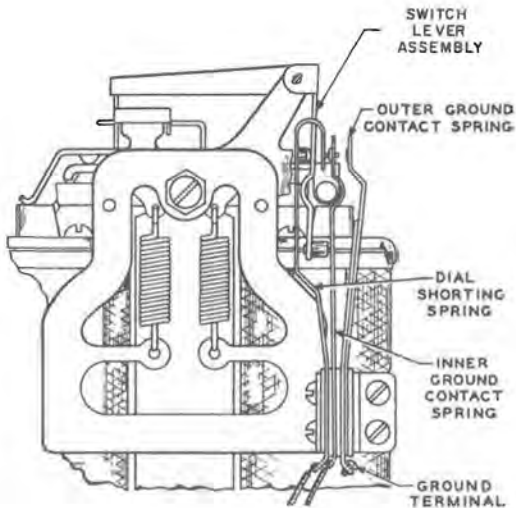

Fig. 58—D-96590 Dial Shorting Relay, 3-Spring
6.109 Refer to Fig. 58 and 59 for spring arrangements.
6.112 With coin trigger and operating arm in normal unoperated positions, dial shorting contact springs (Fig. 58 and 59) should have perceptible follow. With coin trigger tripped, they should be open; judge visually.